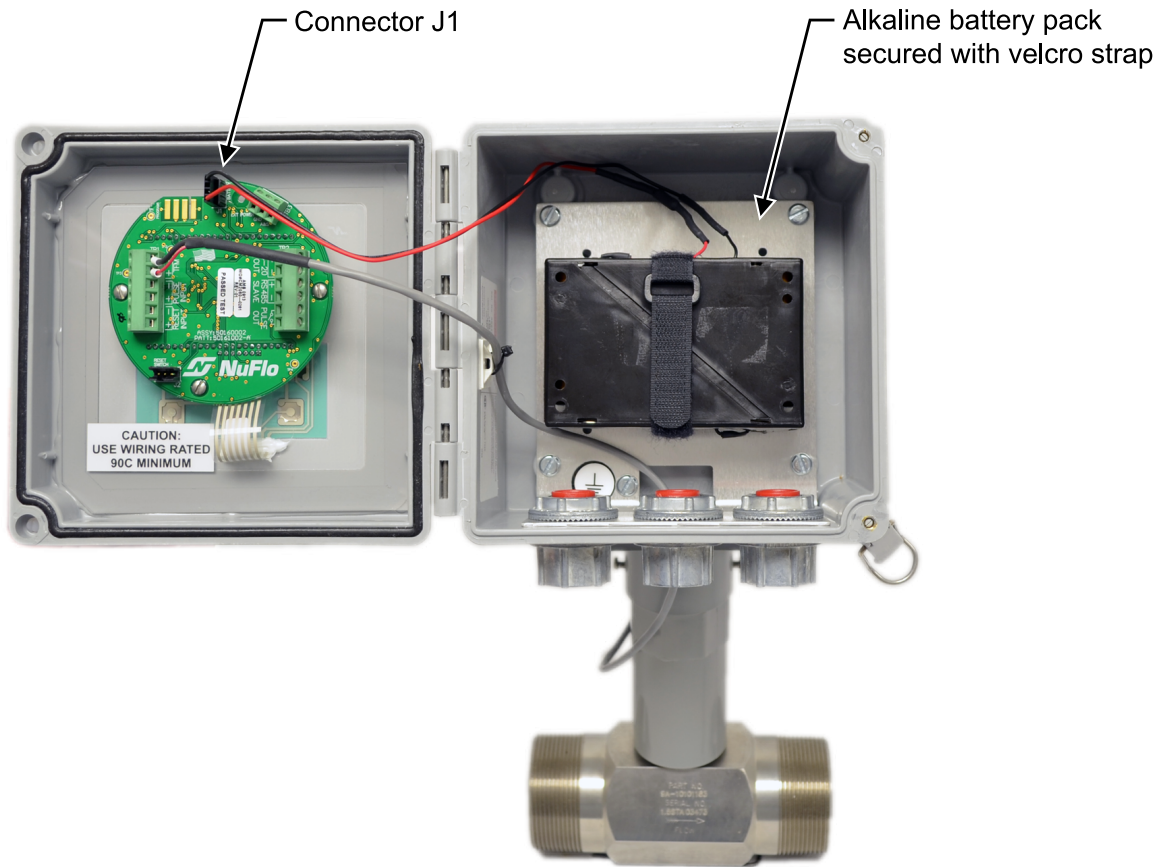

Figure 6.2—Alkaline battery replacement
3. Remove the spent batteries from the holder (Figure 6.2) and dispose of them in accordance with local regulations.